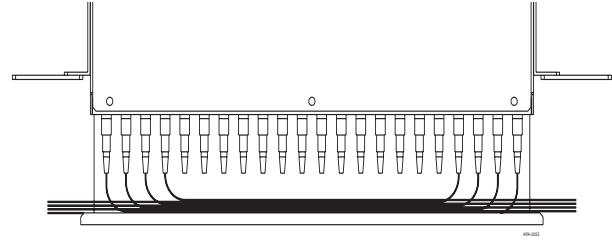

Figure 4
To ensure minimum bend radius, jumpers from the outer four (4) I/O ports must be routed to the opposite side of the unit (Figure 4). All other jumpers can be routed in either direction.